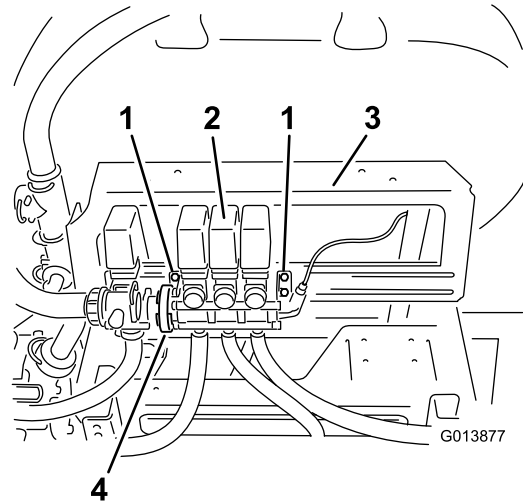

Figure 4
1. Loosen, but do not remove, the bolts that secure the boom valve assembly to the mounting bracket (Figure 4).
2. Loosen the existing worm clamp that secures the agitation valve to the boom valve assembly (Figure 4).